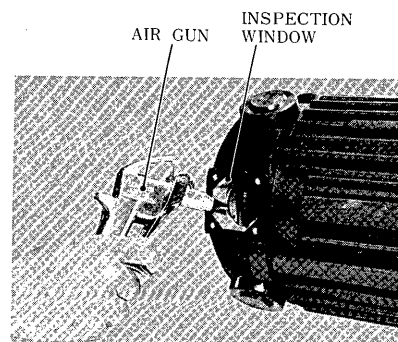

Fig. 8 Removal of Carbon Particles by Compressed Air
Where inserting the brush, be sure to put it into place for commutator protection. Refer to Fig. 8.
2. After the above test drive, remove the inspection window cover at lower position of the motor. Blow off brush dust and other dirt with clean, dry compressed air through the inspection window. See Fig. 8.